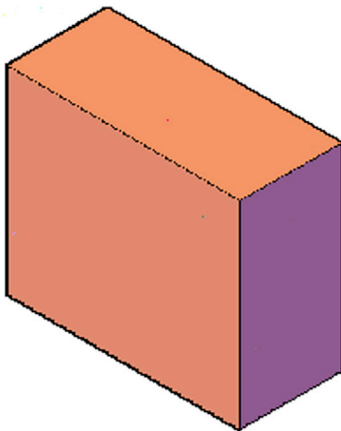

FIGURE 23.18 Box primitive.
Step 4. Drag your mouse up (or enter a value) and the shape is automatically extruded into a cube, as seen in Fig. 23.18.